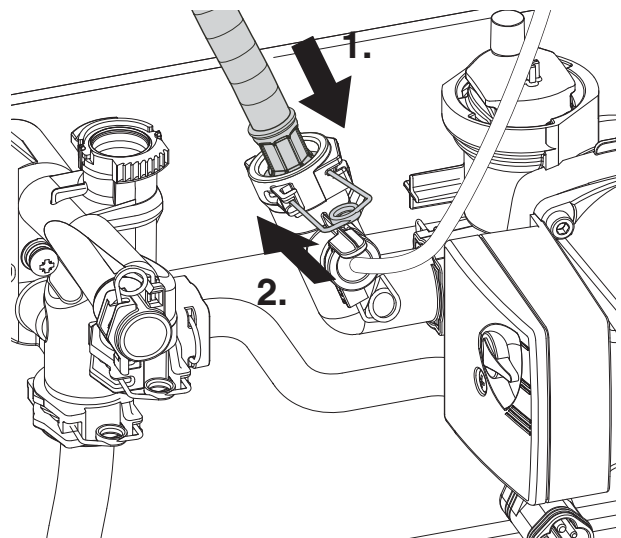

Fig. 37 Expansion vessel hose connection
1. Refer to figure 37 and insert the expansion vessel flexible pipe into the fitting on the pump.